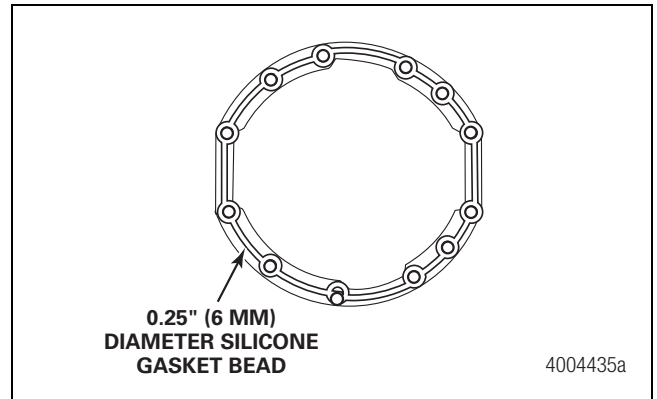

Figure 4.11
10. Apply a 0.25-inch (6 mm) bead of Loctite® 5699 silicone gasket material to the housing face. Do not use ThreeBond 1216E silicone products. Figure 4.11.